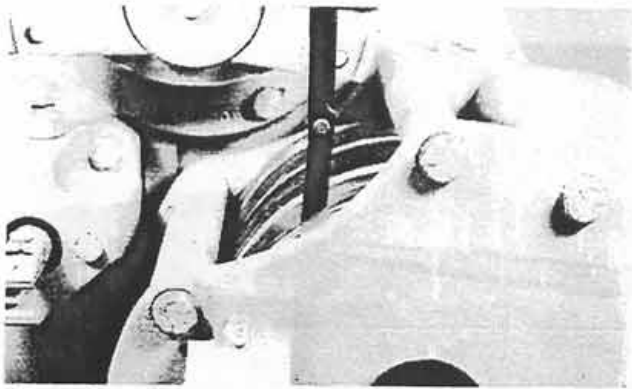

Figure 21:
4. After installing the outer brake plate, the brake is adjusted to a minimum clearance of .090 inch (2.28 MM) between the brake disc stack and the outside plate (Fig. 21) by adjusting the length of the threaded rod on the slave cylinder.